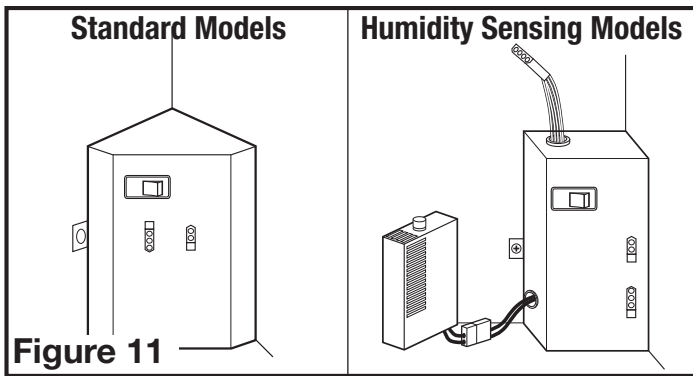

Figure 11
- 3a. **STANDARD AND HUMIDITY SENSING MODELS:** Plug the fan's 2 pin and 3 pin quick connect motor cords into the corresponding receptacle located on the wire compartment cover. These cords will only fit one way into the receptacles (**Figure 11**).